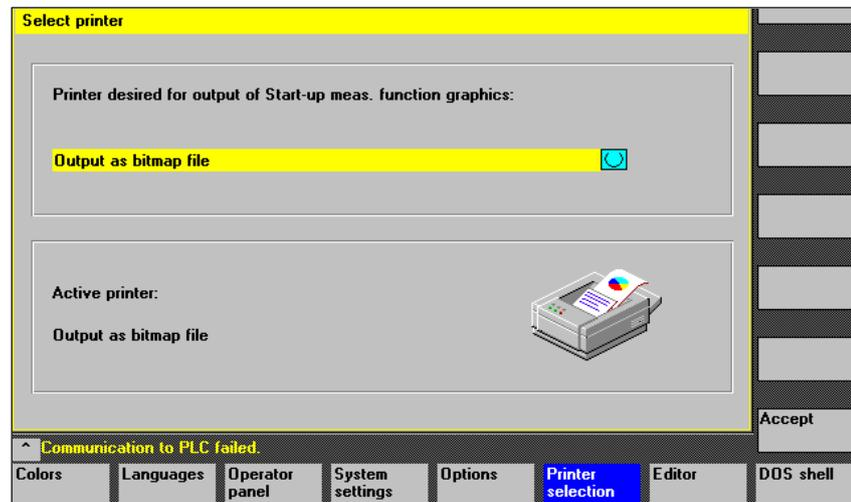

Fig. 10-20 Basic screen for printer selection
**Printer settings**The printer selection screen is called up by pressing the **HMI\Printer selection** soft keys (Fig. 10-20).